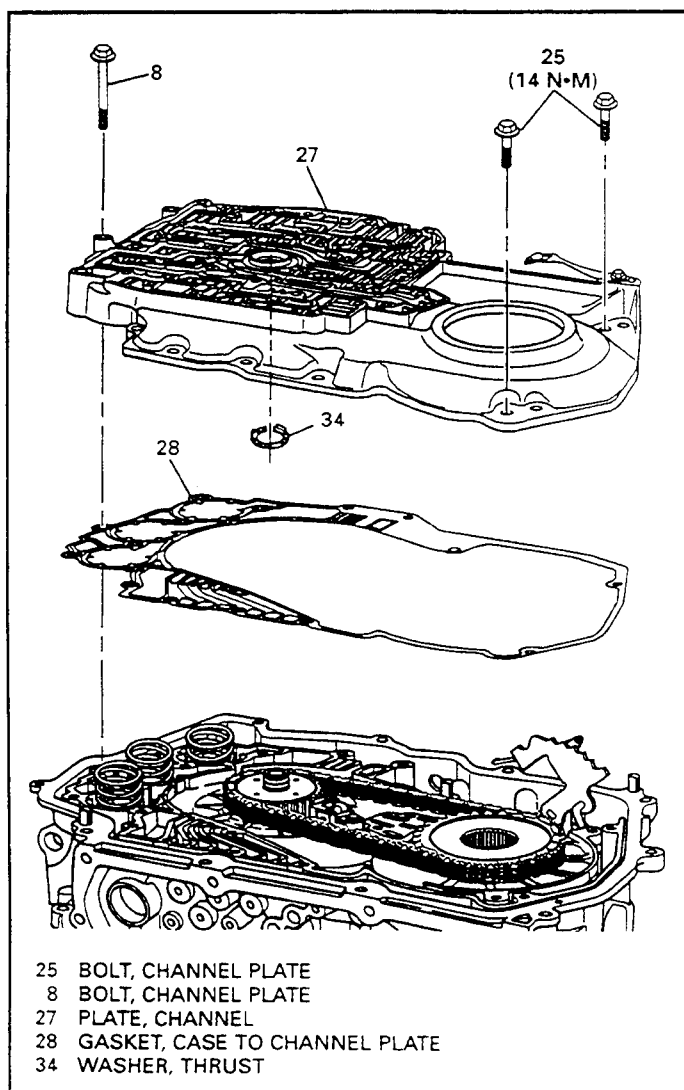

Figure 169
9. Install a new channel plate to case gasket (28) onto the transaxle case as shown in Figure 169.
10. Install the completed channel plate assembly onto the transaxle case as shown in Figure 169. The channel plate should fit tightly over the guide pins located on the transaxle case.